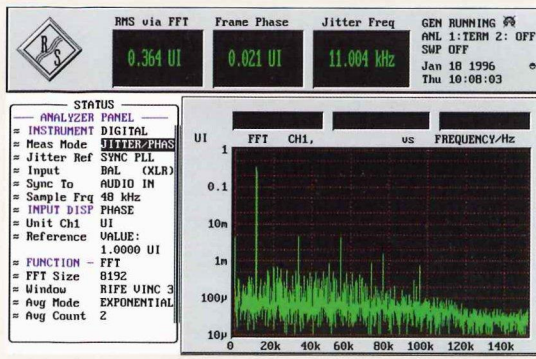

Fig. 9: Individual interference components can easily be found with the aid of the jitter spectrum.
- Measurement of jitter amplitude and display of jitter spectrum (Fig. 9).